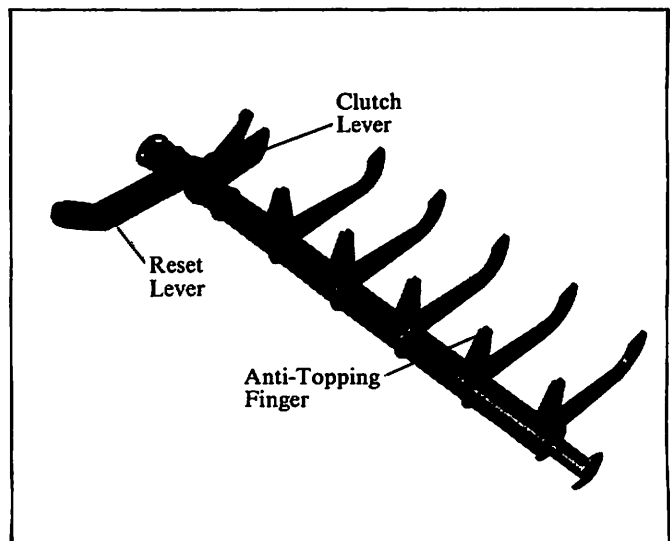
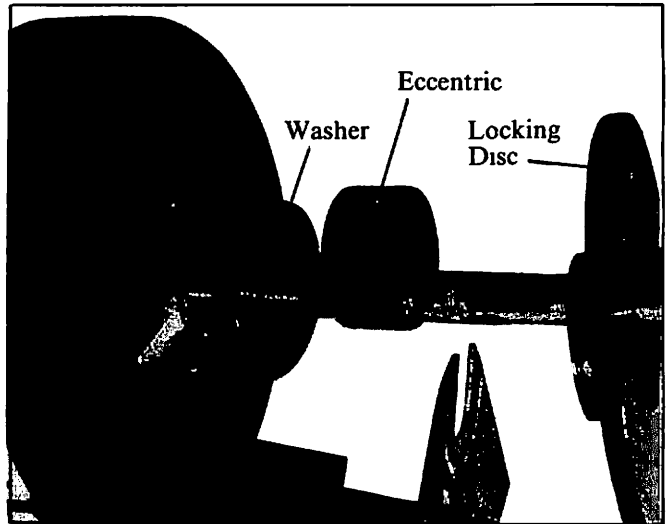
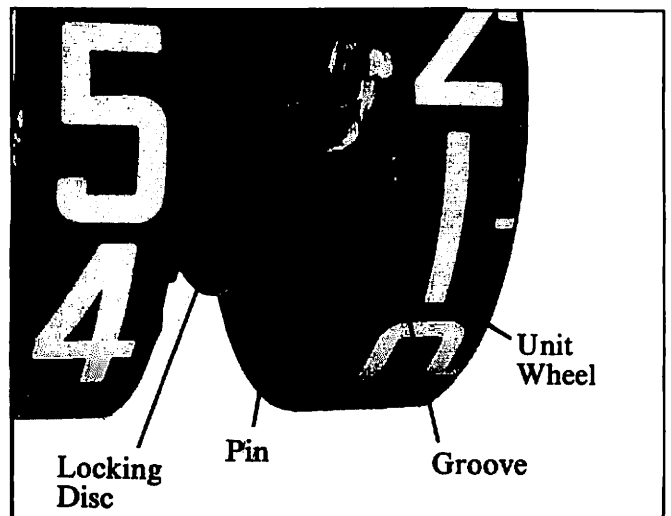
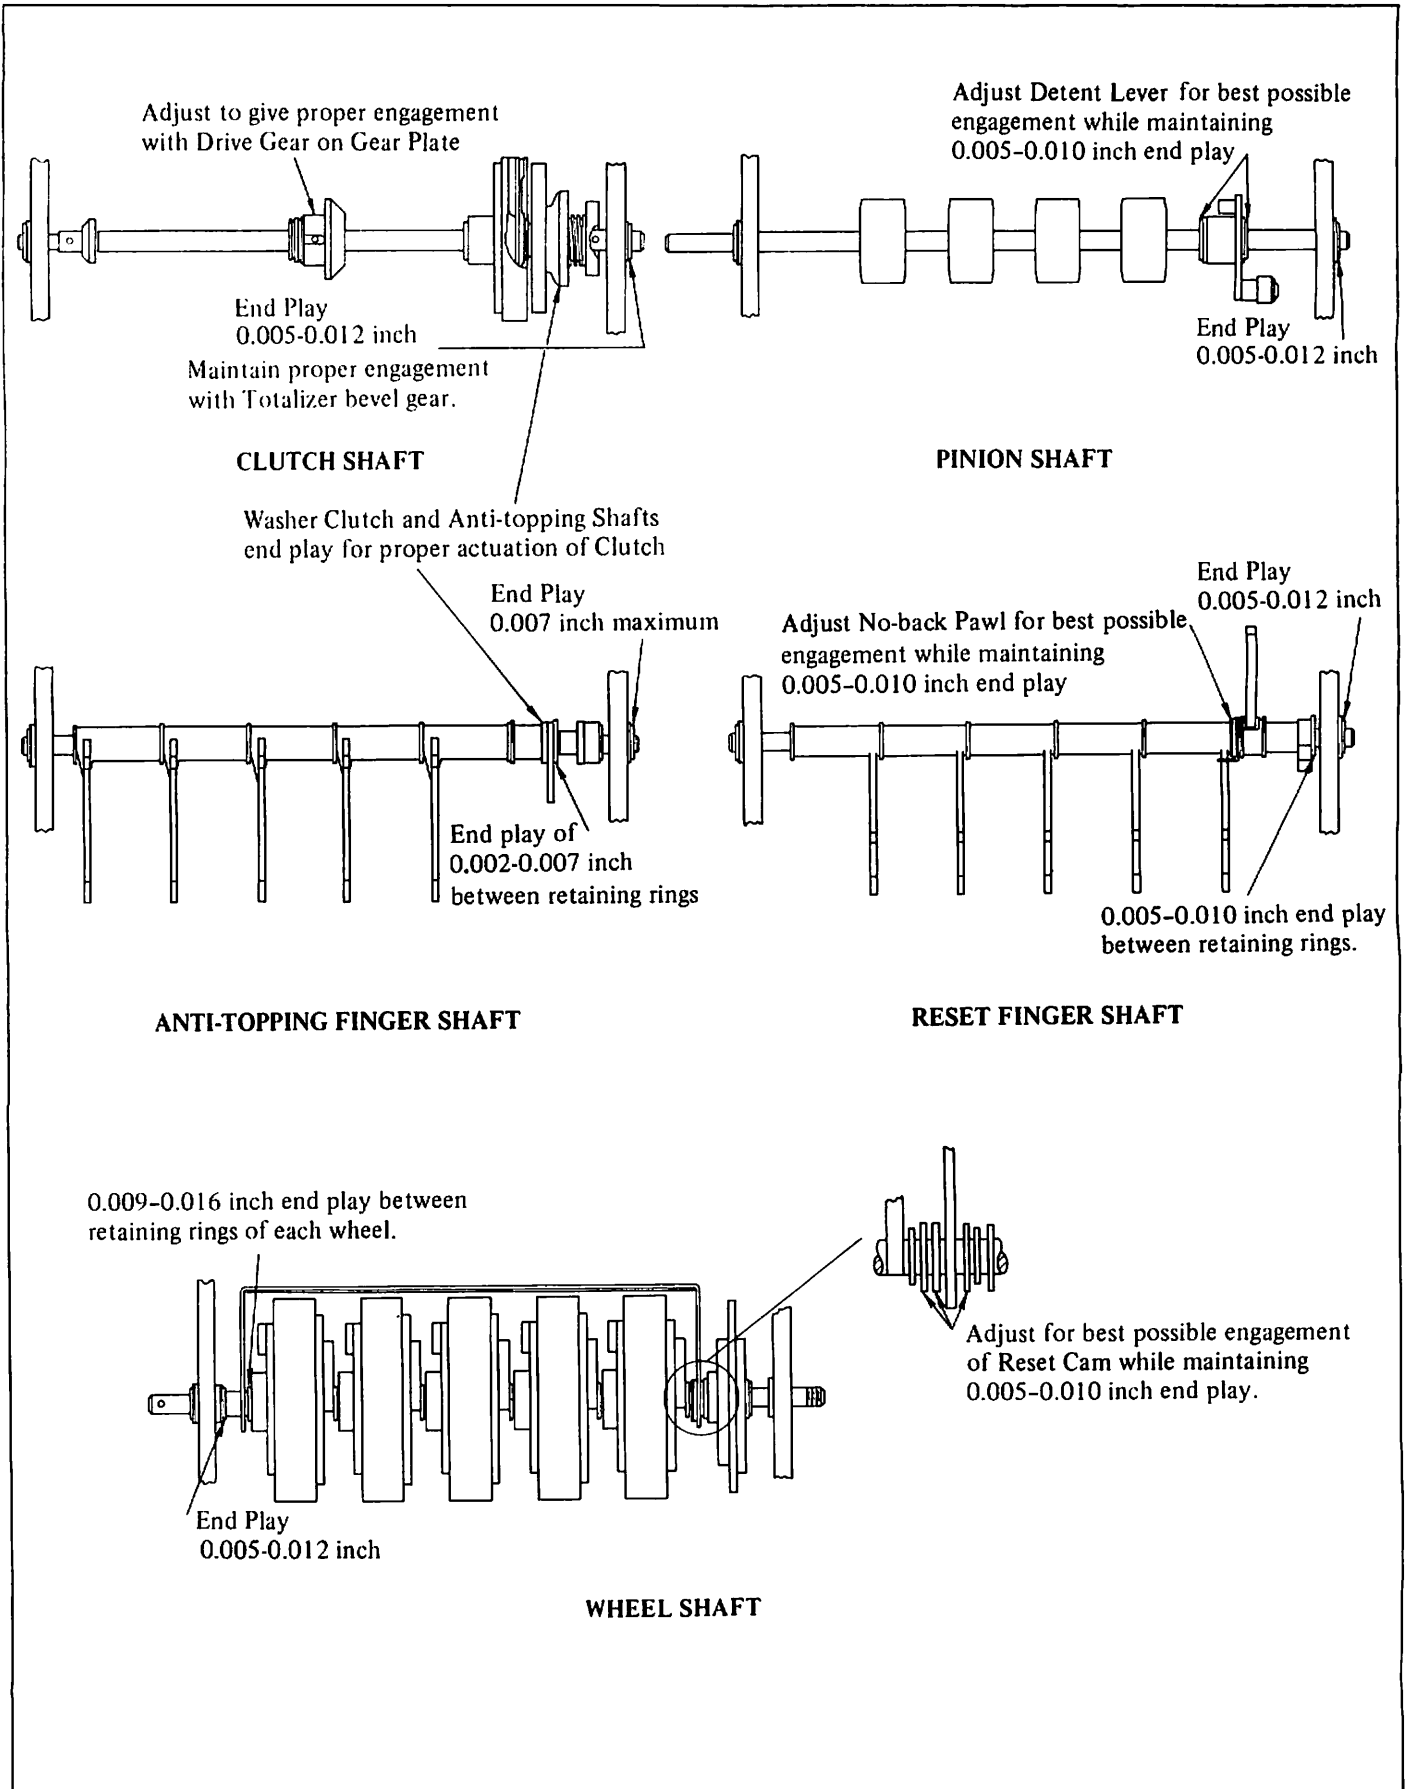

Figure 14. Anti-Topping Finger Group.
Figure 17. Locking Disc, Eccentric and Washer Removal and Installation.
Figure 18. Unit Wheel Installation.
Figure 28. End Play Limits.
- b. Replace defective items with new part. Assemble remaining parts on shaft. Install retaining rings and washers. Check end play per Figure 28.
3. Anti-Topping Finger Group Parts Replacement. See Figure 14. Individual anti-topping fingers, reset lever and clutch lever may be replaced as required.
- b. Install parts, retaining rings and washers in the sequence shown in Figure 14. Be sure to install parts so they are in the proper direction. Check end play per Figure 28.
- b. Install parts, retaining rings, washers and key in the sequence shown in Figure 17. When installing wheels, be sure the pin on the locking disc engages the groove in the wheel as shown in Figure 18. Check end play per Figure 28.
- b. Remove the retaining ring behind the bevel gear and add or subtract washers as required for proper mesh between the bevel gear on the gear plate and the drive bevel gear on the clutch shaft. The shaft end play must be maintained as specified in Figure 28.